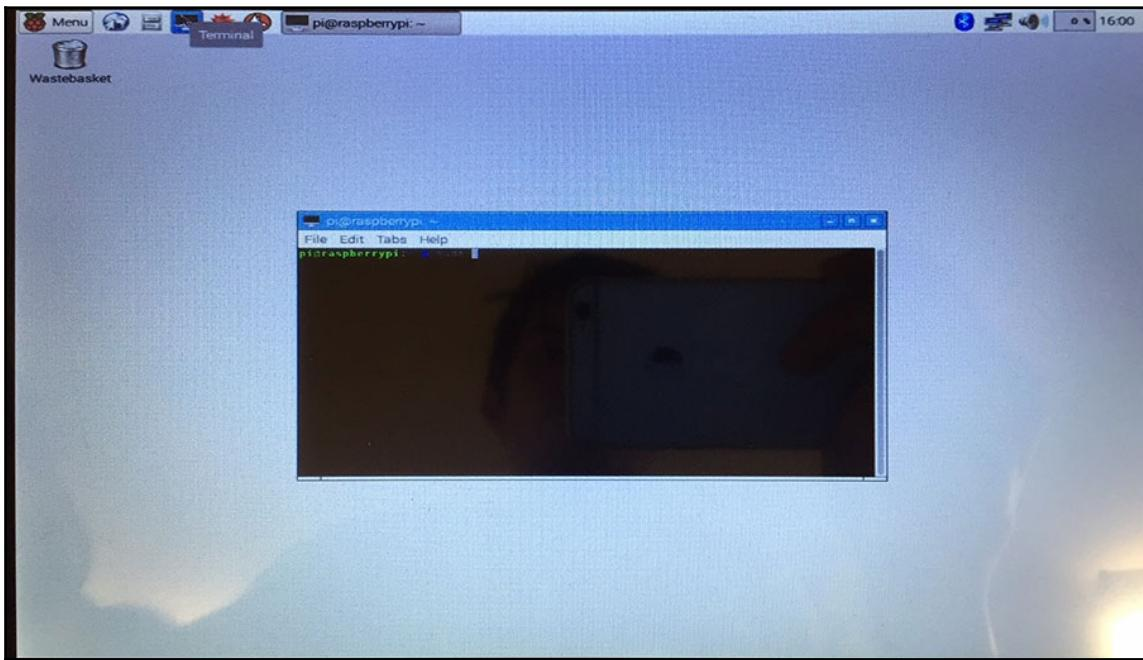

Figure 3-5: Raspbian desktop on Waveshare display. Image credits: courtesy of ModMyPi (<https://www.modmypi.com>)
2. Apply power to your Raspberry Pi. The Pi boots and you can see the Raspbian desktop on the screen (Figure 3-5):